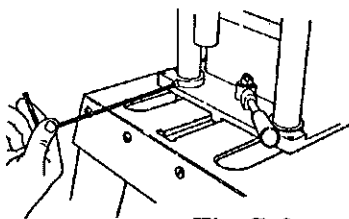
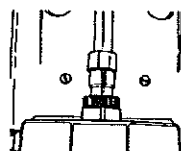

Fig.G-8
Fig.G-7
10. When you have reached horizontal alignment shown in Fig.G-7, tighten the carriage setscrews (22), securing the Jigsaw tubes. See Fig.G-8.